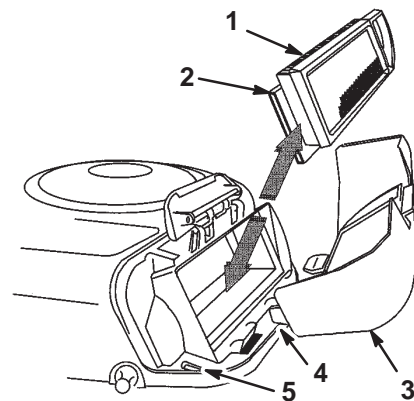

Figure 24
8. Carefully slide the paper element and the foam element from the blower housing (Fig. 24).
2. Align the tabs on the air cleaner cover with the slots of the blower housing (Fig. 24).